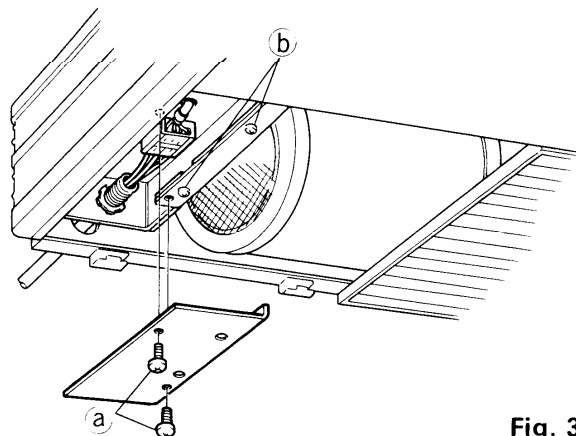

Fig. 3
- 2 ) When the three screws (b) are removed, the electrical component box can be pulled out to the lower side of the unit. (The one other screw (b) is at the rear between box and casing.) Fig. 3